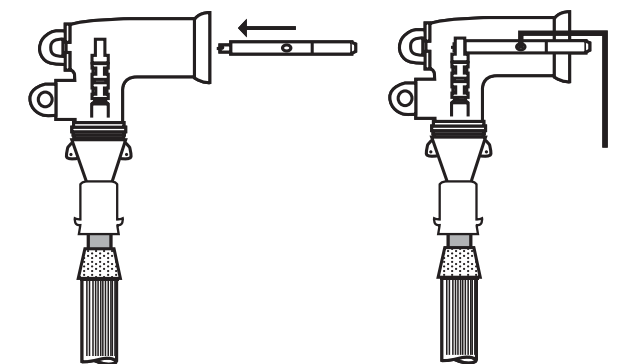

Fig. 13 - Assemble & torque probe with wrench
D. Hand thread the probe into the lug to avoid cross threading. Once the probe has been properly started, use the supplied wrench to fully tighten probe into the lug. The probe will be fully mated when the wrench permanently deforms at approximately 100-120 inch/lbs of force. See Figure 13.